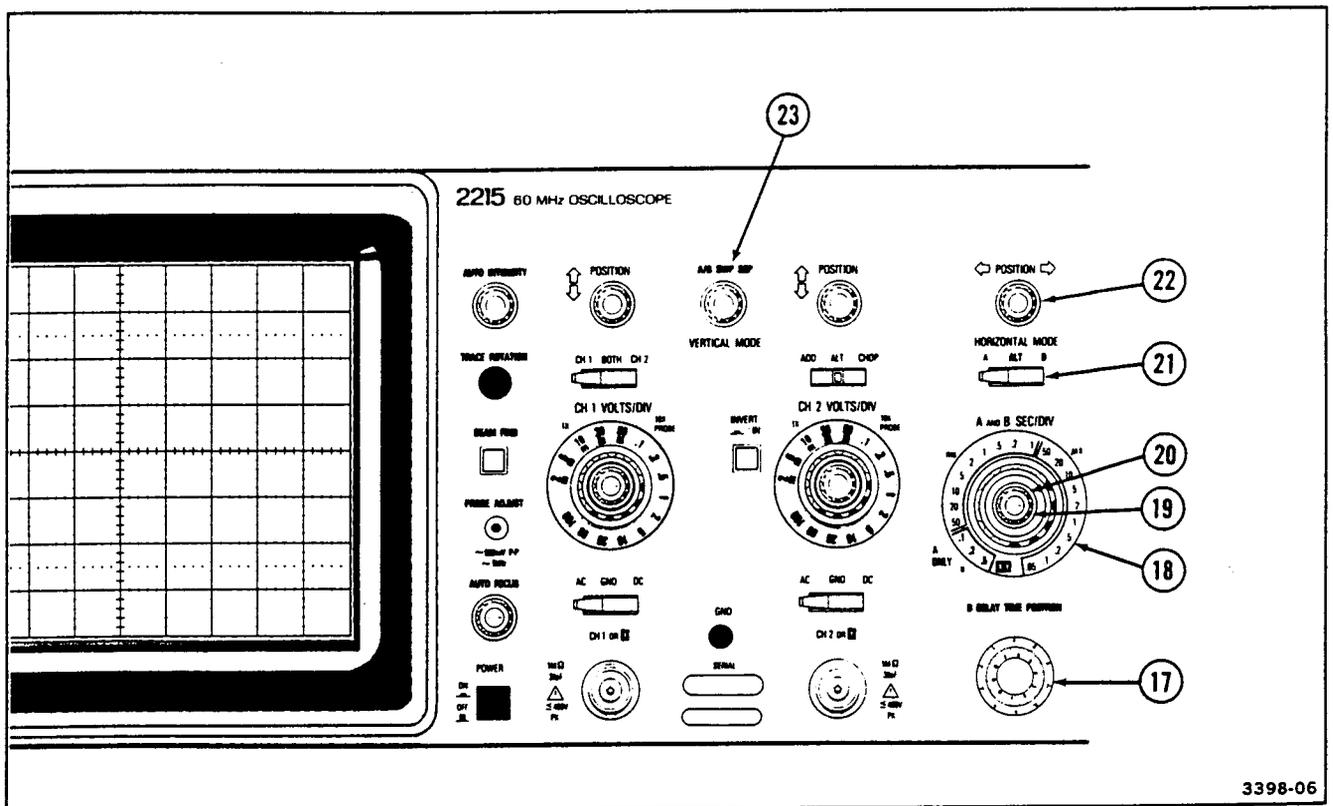

Figure 2-5. Horizontal controls.
Refer to Figure 2-5 for location of items 17 through 23.